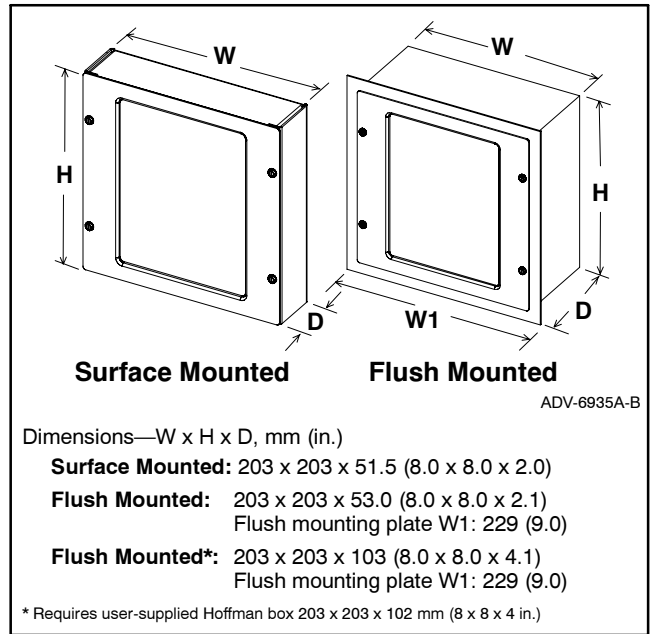

Figure 13 RSA Box Dimensions
3.1 Select a visible location for mounting the RSA up to 853 m (2800 ft.) from the controller. Install the RSA, either surface- or flush-mounted, in a location easily observable by operating personnel at their work stations. See Figure 13 for RSA overall dimensions.